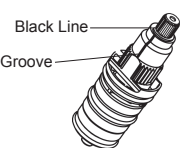

Fig.7
**NOTE:** Do not turn the cartridge when reinstall it. If you turned it without carefulness, you should adjust it and be sure that the black line mark is correctly in line with the groove(Fig.7). For accurate temperature, it is supposed to verify and resetting the cartridge according to instruction in previous pages.